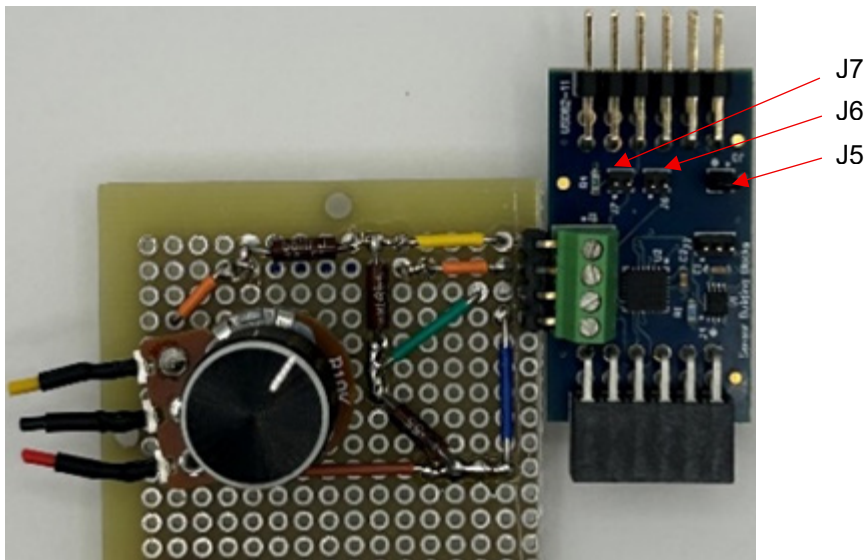

Figure 3. Sensor Bridge Setup
4. Connect the sensor bridge to the US082-SSC3224EVZ as shown in Figure 3.